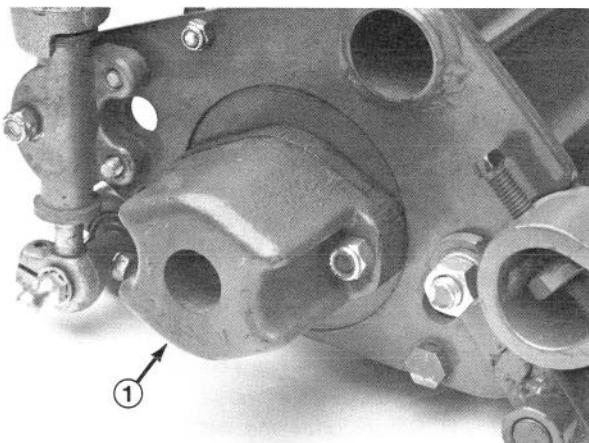

Figure 13
1. Remove the mounting nuts from the counterbalance end cap and remove end cap from the mounting studs (Fig. 13).
- Remove counterbalance End Cap (Fig. 13).
- Remove the large bearing adjustment nut from one end of the reel shaft (Fig. 13) and the special spline nut at the opposite end of the reel shaft.